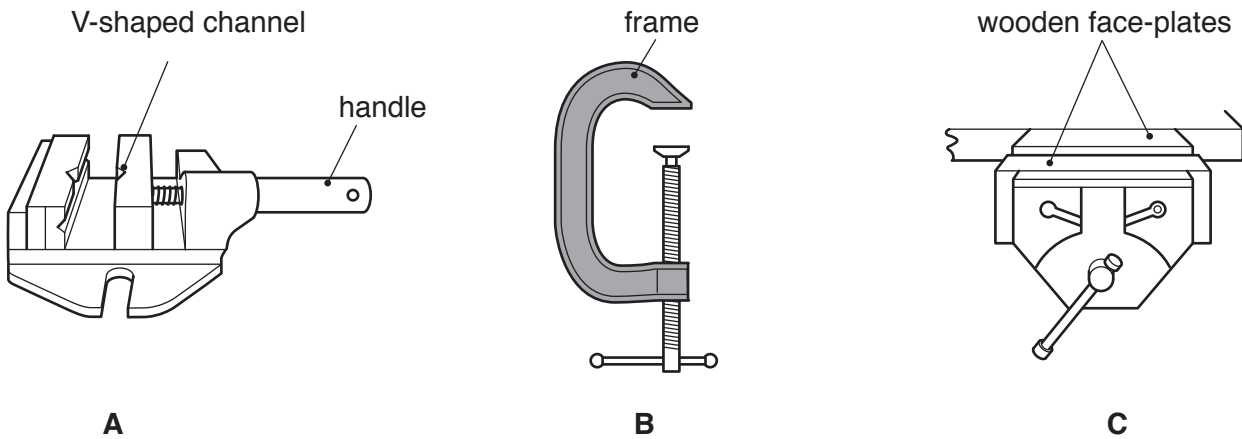

Fig. 4
11 **Three** different holding tools are shown in Fig. 4.
- (a) Name the holding tools shown in Fig. 4 and state a specific use for each. [6]